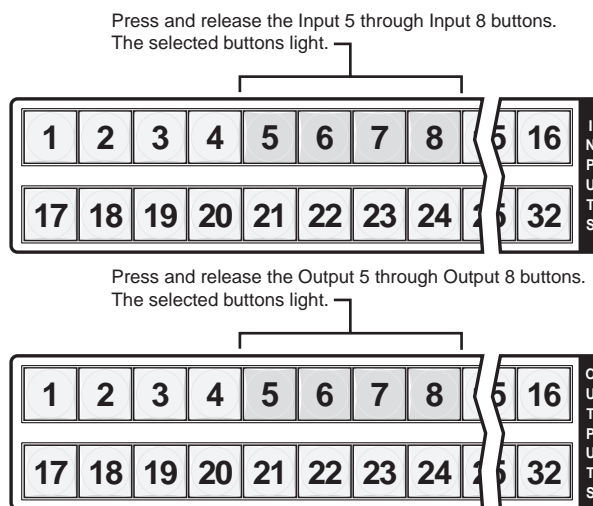

Figure 3-35 — Assign inputs and outputs
6. Press and release the input 5 through 8 and output 5 through 8 buttons (figure 3-35).